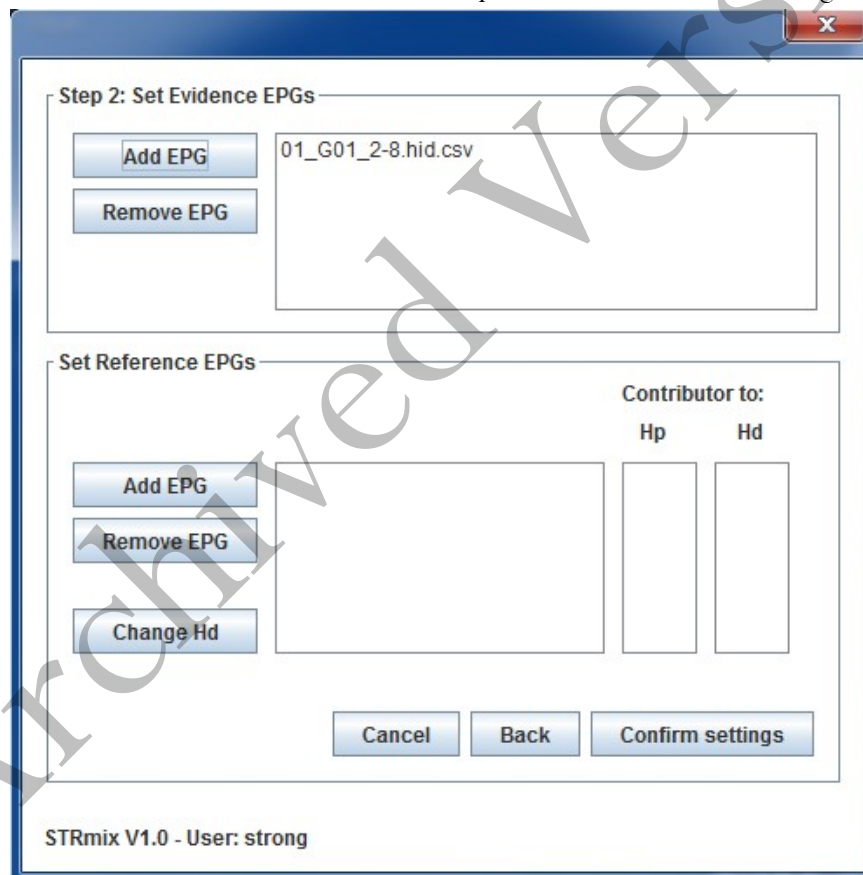

FIGURE 3
2. In the Set Evidence EPGs screen select Add EPG to open Add EPG window (see Figure 3)
4. The window in Figure 3 will open. Only the Set Reference EPGs will be available. If any contributors need to be assumed at this point, the deconvolution should be repeated as this is not an available feature when conducting an LR from Previous Analysis. Navigate to the reference input file/s as appropriate. Reference input files will automatically be assigned as a known contributor under Hp. Select Confirm Settings.